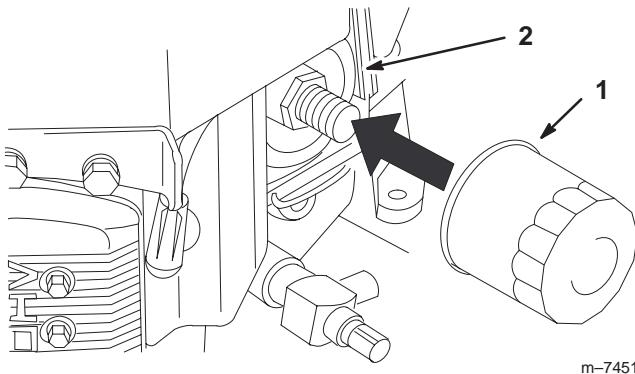

Figure 31
2. Remove the old filter (Fig. 31).
3. Apply a thin coat of new oil to the rubber gasket on the replacement filter (Fig. 31).
4. Install the replacement oil filter to the filter adapter, turn the oil filter clockwise until the rubber gasket contacts the filter adapter, then tighten the filter an additional 3/4 turn (Fig. 31).